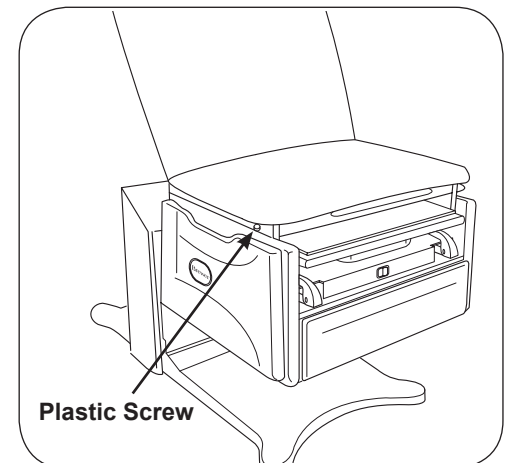

Figure 28. Location of White Plastic Stop Screw
2. Remove the white plastic screw (Figure 28).